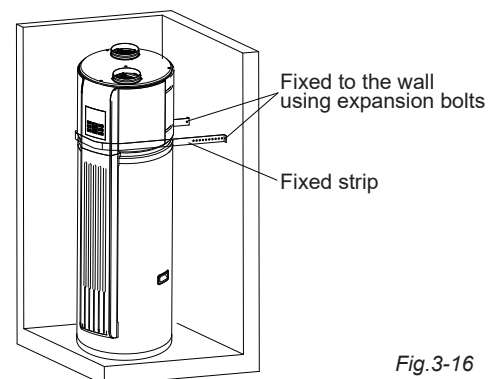

Fig.3-16
- 7) In order to prevent toppling, please use fixed strip fixed unit. The installation method of fixing strips is shown in the Fig.3-16, and both sides are fixed to the wall using expansion bolts.